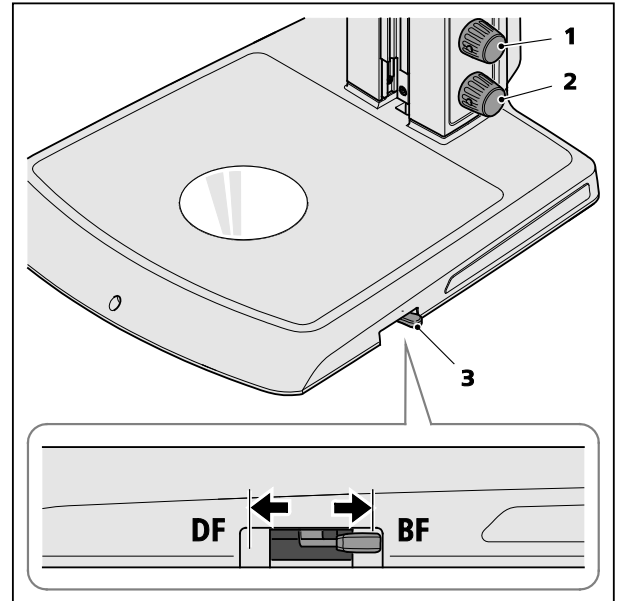

Fig. 4 Operating the Transilluminator Brightfield
- Press the lower knob (Fig. 4/2) to switch on the transmitted light illuminator and adjust it by turning the illumination intensity control.
- Toggle between brightfield (BF) and all-sided darkfield (DF) illumination by moving the lever (Fig. 4/3).
Press/turn the upper illumination button (Fig. 4/1) to add a variable amount of reflected light to the set transmitted light.